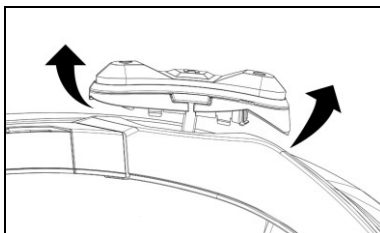

Fig. 27
- Rotate the keypad in a counterclockwise direction (Fig. 27).